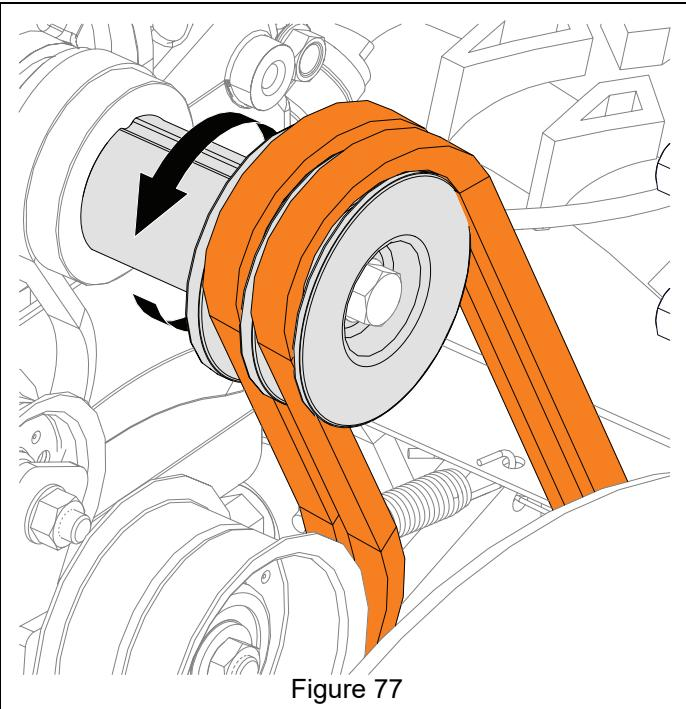

Figure 77
10. Reinstall attachment drive belts onto attachment sheave. See Figure 77.